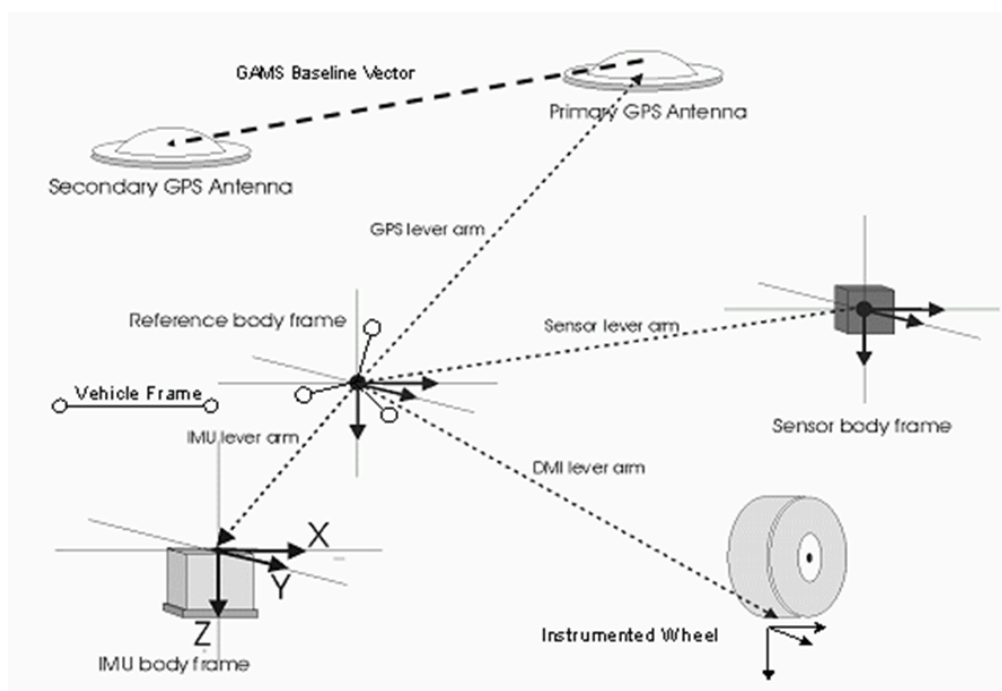

Fig 7: Lever Arms
- DMI Lever Arm (Reference Point to DMI sensing point - in most cases where the tire with the installed DMI touches the ground - see Fig 7)